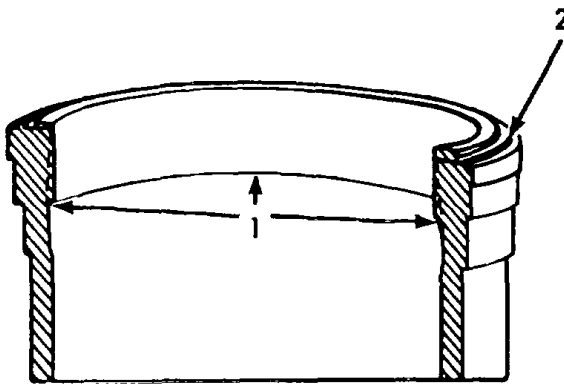

Figure 3-267. Cylinder liner cross section.
(6) Mark liners to be reused for ridge cutting, boring or grinding and honing if worn less than above limits and otherwise undamaged in areas 1 and 2 (fig. 3-267).